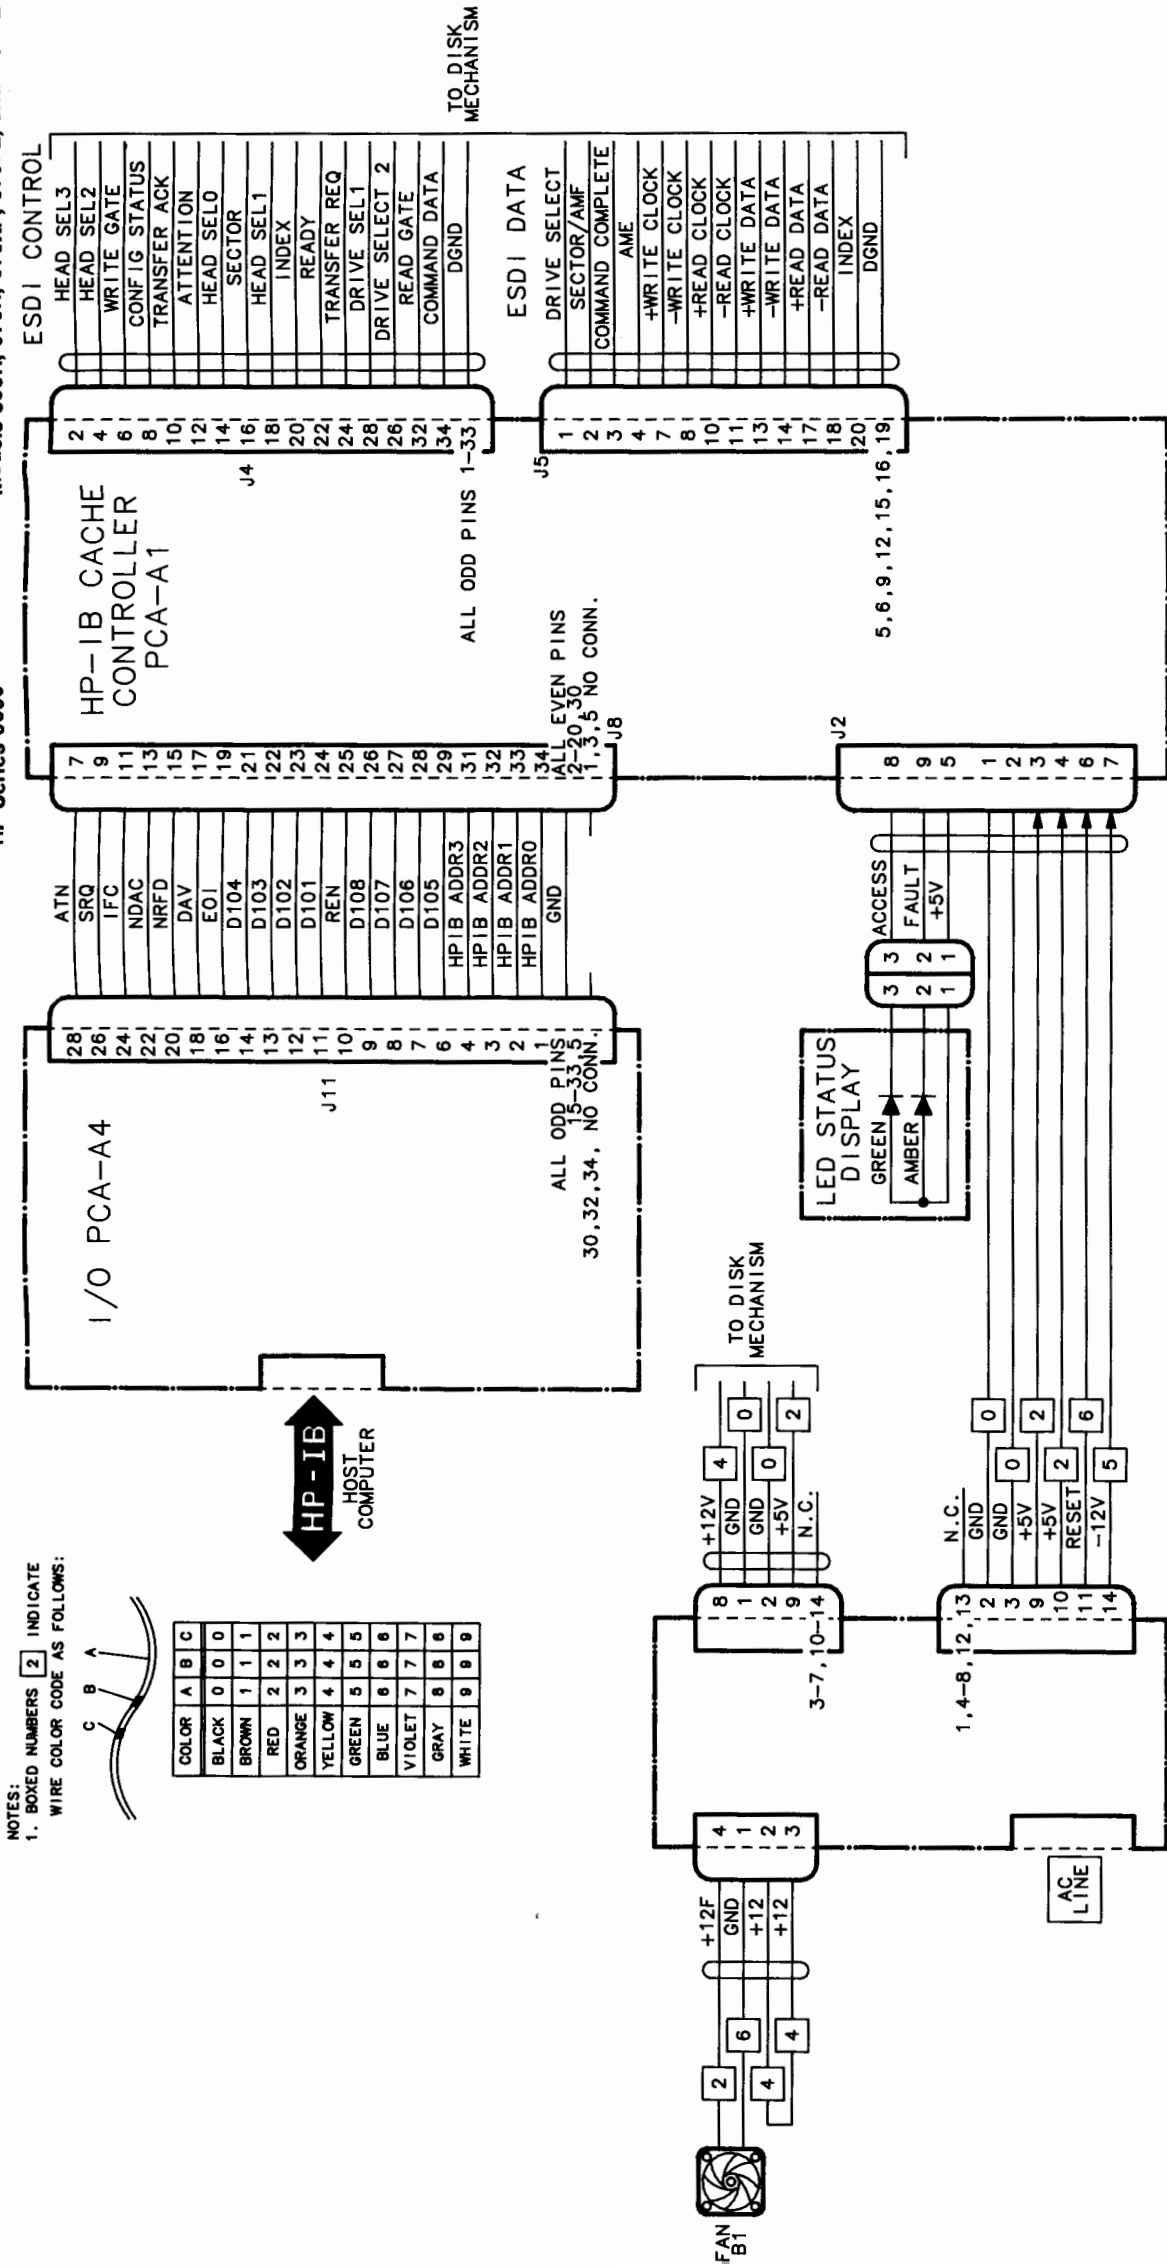

Figure 9-3. 670XP Signal Distribution
- Figure 9-3. 670XP Signal Distribution